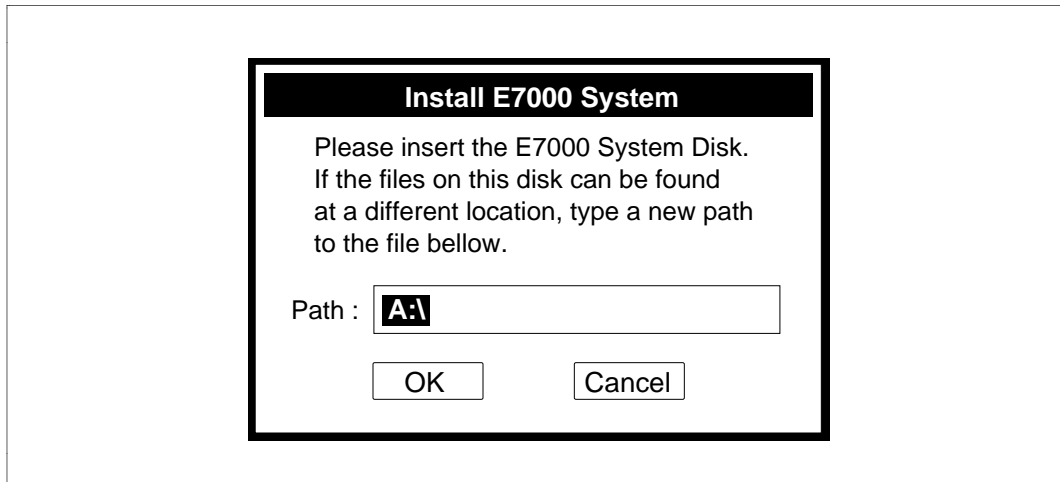

Figure 2-5 E7000PC System Disk Drive Specification (INSTALL)
- (7) Enter the directory name and click the <Install> button, which starts copying the necessary files for GUI-2600 execution.
- (8) When the files necessary for GUI-2600 execution have been copied, a dialog box is displayed prompting the user to locate the E7000PC system disk, as shown in figure 2-5. Insert the E7000PC system disk into a floppy disk drive and click the <OK> button, which starts copying the E7000PC system files.